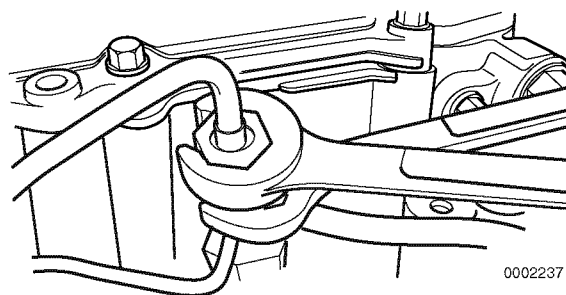

Figure 7-5
3. When tightening the fuel line nuts on the fuel injectors, use one wrench to hold the fuel return line nut and fuel return line from rotating. Use a second wrench to tighten the fuel line nuts (**Figure 7-5**). *See Special Torque Chart on page 7-7.*